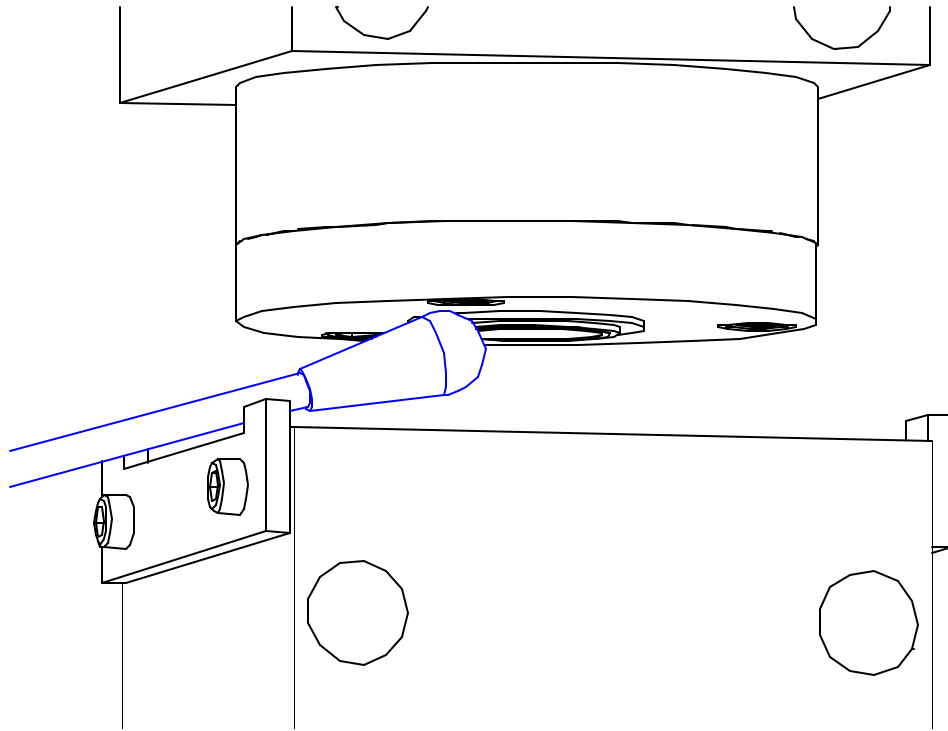

Figure 4 Nozzle cleaning diagram
- B. Using a cotton applicator with a small amount of isopropyl alcohol gently clean the lip of the nozzle see Figure 4.